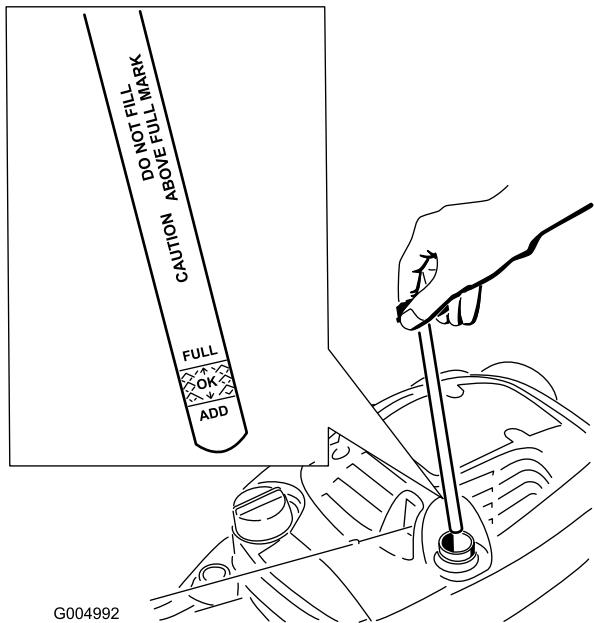

Figure 9
1. Remove the dipstick, wipe it clean, and fully install the dipstick (Figure 9).
2. Remove the dipstick and check the oil level (Figure 9). If the oil level is below the **Add** mark on the dipstick, **slowly** pour oil into the oil fill tube to raise the oil level to the **Full** mark on the dipstick. **Do not overfill.** (Max. fill: 20 oz., type: SAE 30W detergent oil with an API service classification of SF, SG, SH, SJ, SL, or higher.)